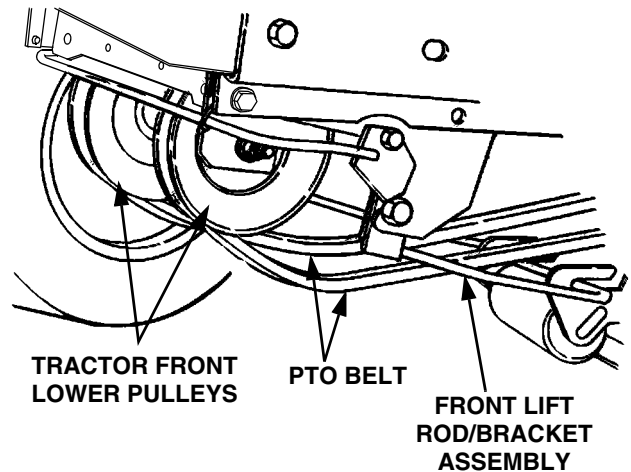

Figure 50
11. Open the tractor hood. From the front of the tractor pass the belt upward in front of the lower front pulleys and inside the tractor frame (Refer to Figure 50).
13. Twist the two sides of the PTO belt 1/4 turn inward to engage the narrow sides of the belt into the grooves of the two tractor front-lower pulleys (See Figure 50).